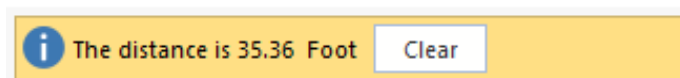

Figure 10-30
- In the **Message Bar** the program will display the measurement between these two points which is 35.36 as shown in **FIGURE 10-30**.